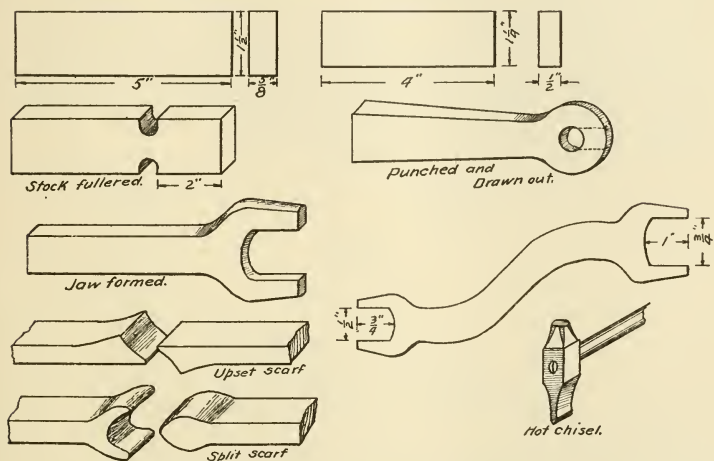

FIG. 204. — STEPS IN MAKING A WRENCH.
2. **Punching.** — Punch a $\frac{1}{2}''$ hole in the center, and with a hot chisel cut a piece out of the end along the dotted lines (Fig. 204). A hot chisel is made for cutting hot iron, while a cold chisel is made for cutting cold iron. The hot chisel is tempered the same as the cold